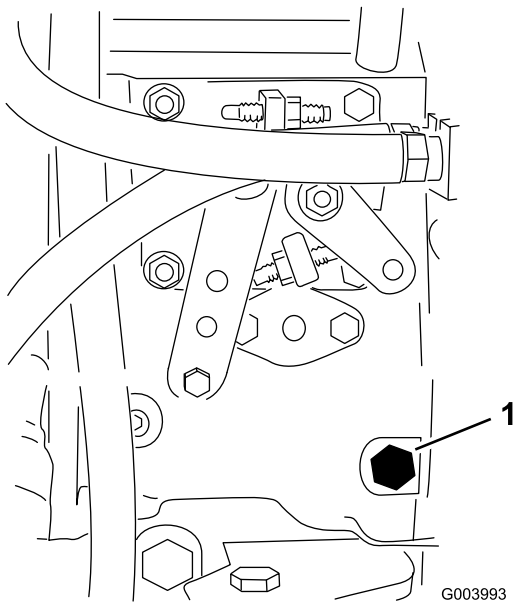

Figure 39
3. Open the air-bleed screw on the fuel-injection pump (Figure 39) with a 12 mm wrench.